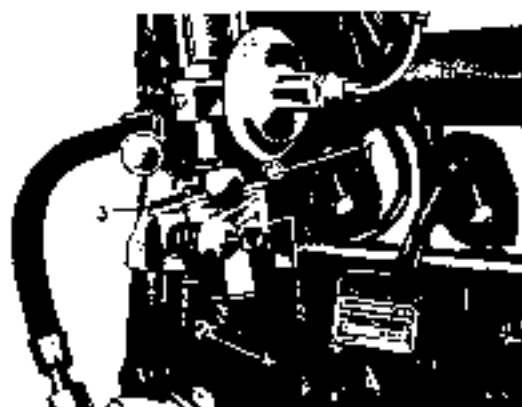

Fig. 01-4/47
The 1st version of the distributor bearing is shown in Fig. 01-4/47. Later, the distributor bearings were provided with a fixing lug (3) with which the bearing was fastened to the cylinder head by means of the hexagon socket screw (1) (Fig. 01-4/49); the stud screw (4) was no longer fitted (Fig. 01-4/47). Later, the octane number compensator on the instrument panel was dispensed with and the distributor bearing was modified to enable the distributor to be adjusted directly on the bearing by means of the adjusting screw (9) (Fig. 01-4/50).